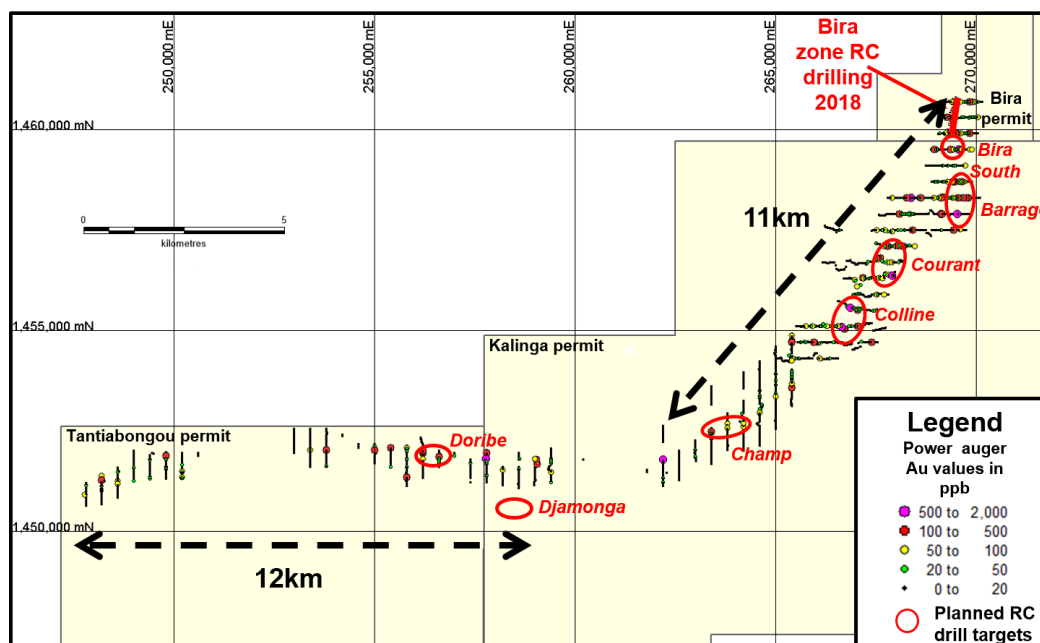

Figure 1: Power auger results and new RC drill target locations SW of Bira, Burkina Faso
- Gold anomalies south-west of Bira now extend for **20km of strike length** (Figure 1), **twice** what was announced one month ago.
- **Up to 20,000m RC drilling** planned on seven prospects (Figure 1) - expected to start in November-December 2018 after the rainy season.
Predictive's current tenement holdings in Burkina Faso are located in the east of the country, and cover approximately 90km of strike length of the Samira Hill greenstone belt in eastern Burkina Faso (Figure 1). This belt hosts the 2.5 million ounce Samira Hill gold deposit across the border in Niger and contains numerous active artisanal gold mine sites along its length. PDI currently owns 100%, or has the rights to earn 95% to 100% of all its permits in Burkina Faso. Predictive has discovered gold mineralisation on multiple prospects in Eastern Burkina Faso area (yellow dots on Figure 2).
All results to date are illustrated on Figure 1 and show that anomalous gold values now extend **over at least 20km** to the south and south-west of the drilled area, indicating substantial potential to discover more gold mineralisation along strike from the Bira prospect.
An RC drilling program on the Bira trend, totalling up to 20,000m, is planned to begin after the current rainy season. Seven targets have been selected for drilling (Figure 1). Of these, six are following up power auger gold geochemical anomalies and a seventh will test a large, active artisanal mine site south of the gold anomalous trend (Djamonga – Figures 1 and 5).